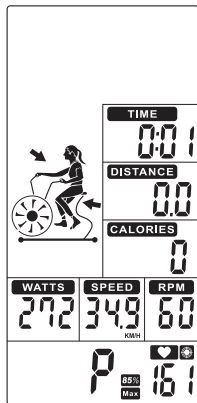

FIGURE 46
- When you start training, MAX HR (DISPLAY 7) lights up alternating between 65% and 85%. TIME (DISPLAY 3), DISTANCE (DISPLAY 4), CALORIES (DISPLAY 5), WATTS (DISPLAY 6), SPEED (DISPLAY 2) and RPM (DISPLAY 1) will be used to calculate workout value (Figure 46).